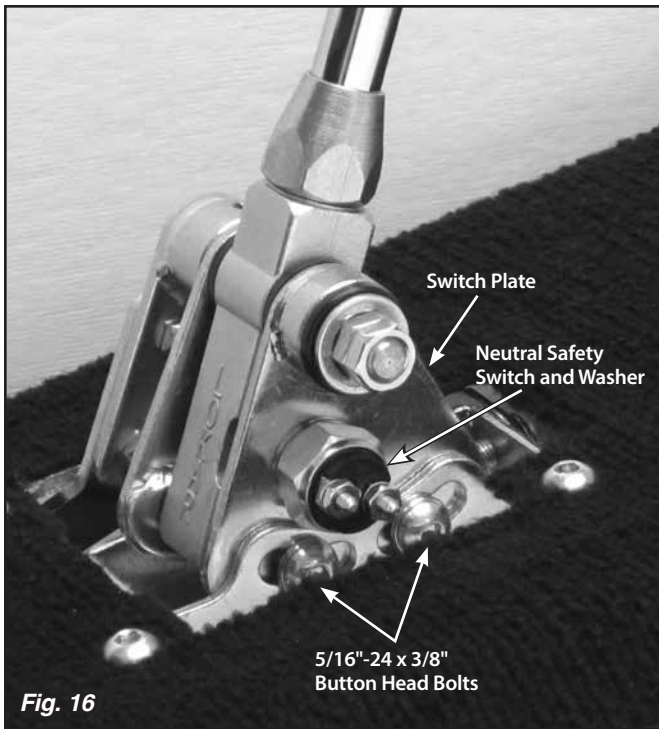

Fig. 16
**Step 22:** Remove the neutral safety switch and washer (**Fig. 16**) from the right side of the Shifter using a 7/8" wrench or socket.
**Step 23:** Loosen, but do not remove, the two 5/16"-24 x 3/8" button head bolts that attach the right side of the floor mount mounting bracket to the switch plate (the bolts are in curved, slotted holes). **Fig. 16**